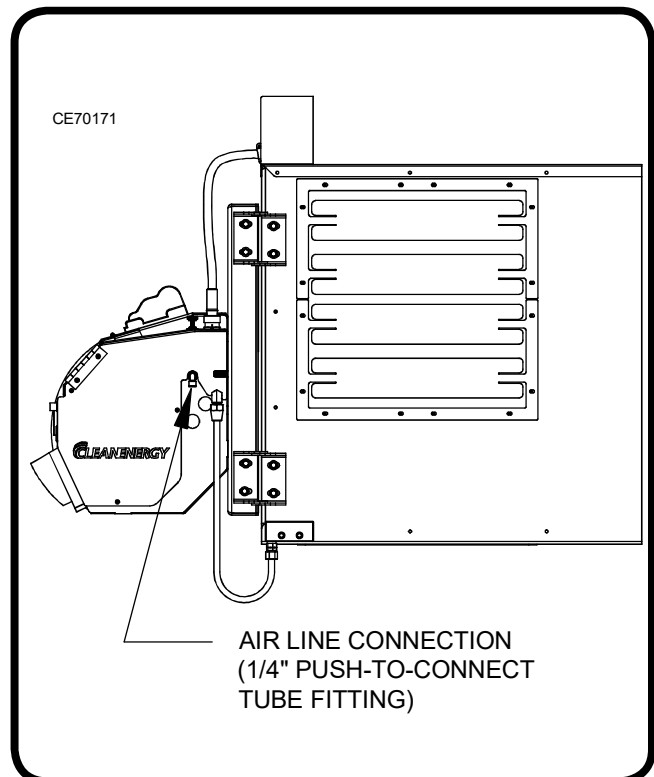

Figure 23: Installing the Air Line
- (1) Refer to Figure 23.
- (2) mount a water trap / air regulator (adjusted to 50 psi) and shut-off valve close to the furnace.
- (3) Run a flexible hose to the air inlet on the side of the burner. Carefully secure the air line to ensure it does not come in contact with any hot metal surfaces.